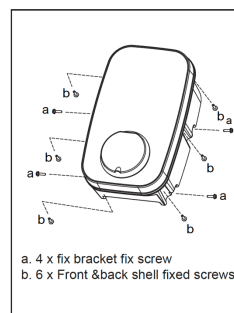

Fig. 10
2. Remove the 6 screws that join the front cover and rear cover. Keep all screws for later use. Refer to figure 10 as reference (positions "a" and "b").
- a9. Screw the unit back onto the mounting bracket using the previously removed screws (reverse operation to that described when disassembling in figure 10).